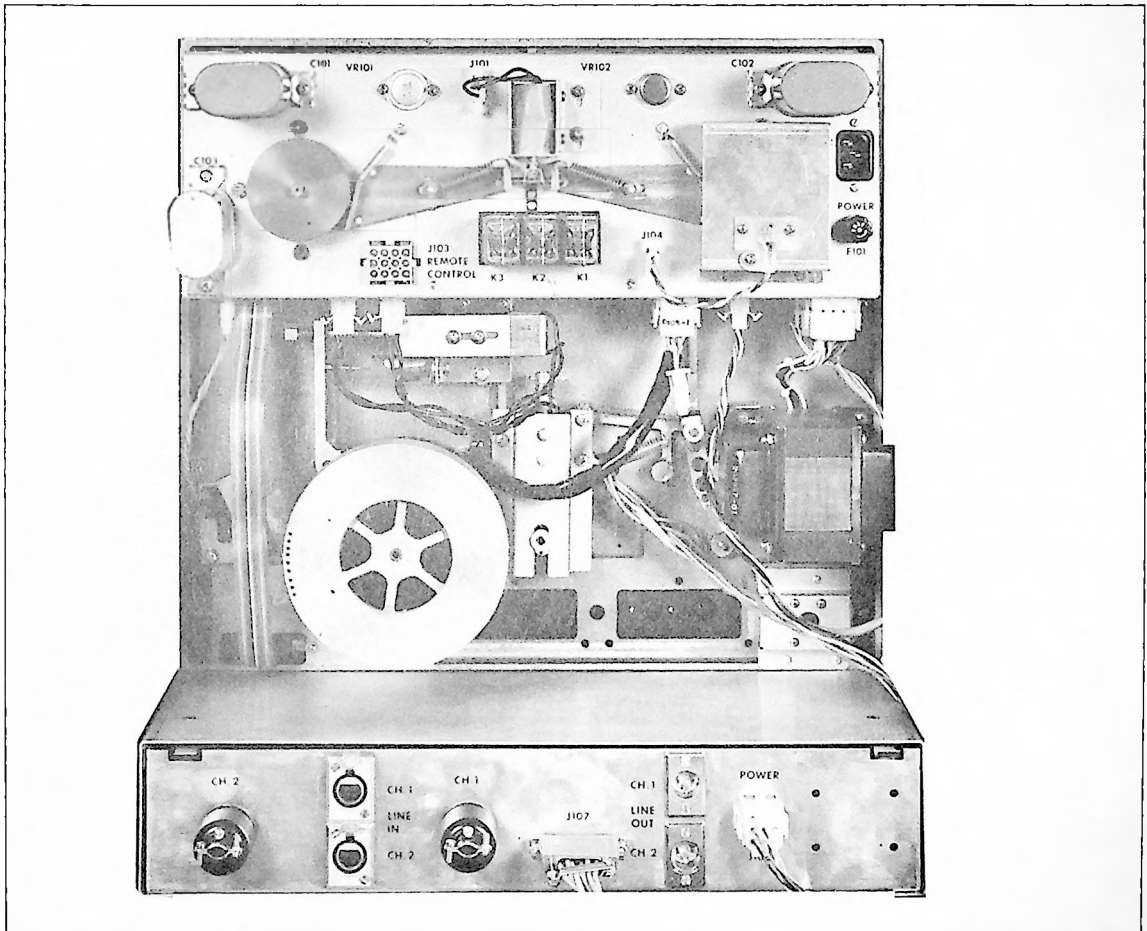

Figure 6-2. 250 Series Recorder/Reproducer (Rear View)
through CR12, front panel phone jack, and CH1 OUT connector J1. The output XLR connector is connected directly to J1 unless an output balance transformer has been provided. A bias trap is provided by L3-C55. (See Figure 6-2 for a rear view of components.)
6.26 The bridge rectifier circuit consists of CR8, and load resistor R4 provides the dc supply to the +24 Vdc voltage regulator VR102. Input power to the rectifier is from the ac secondary of the power transformer via J4 pin 4. The +24 Vdc regulator VR102 is mounted to a heat sink on the electronics chassis, and its external components are mounted on the Power Supply and Control PWA. Figures 6-2 and 6-8 show the physical location of VR102. The external components consist of C3, R3, C4, R2 and C7. (See schematic diagram Figure 8-7.) The output of the regulator provides +24 Vdc regulated to the record/playback electronics, relays K1, K2, K3, all solenoids, and +5 Vdc voltage regulator VR101. A filter capacitor C105 on the input of VR102 is used for reducing ripple on the incoming power. See interconnect diagrams Figure 2-4 and 2-5. The +5 Vdc regulator VR101 provides +5 Vdc regulated to the motion sensor circuit via J5 pin 6, remote control via J7 pin 3, optack lamp driver via J5 pin 3, and to the control logic circuit via J6 pin 15. Regulator VR101 is also mounted on the electronics chassis. Figures 6-2 and 6-8 also show the physical location of VR101. A bypass capacitor C104 is used between the output and ground; see interconnect diagrams Figures 2-4 and 2-5. The interconnect diagram for the electronics chassis is shown on Figure 2-6.